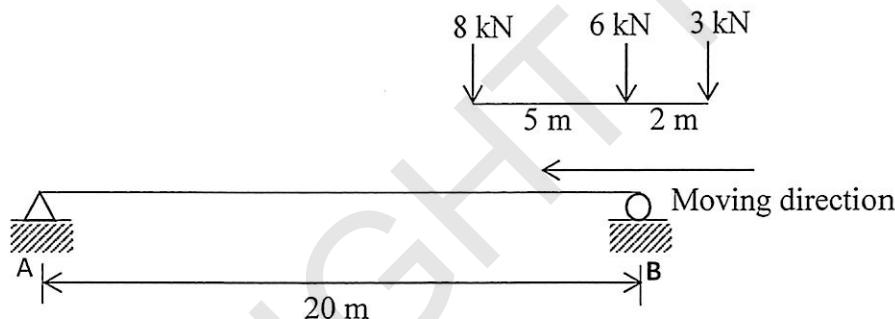

Figure A2(b) / Rajah A2(b)
- CLO3 (b) A simply supported beam in Figure A2(b) which supported at A and B is subjected to a series of moving loads of 8 kN, 6 kN and 3 kN respectively. By using the Influence Line Diagram Method, evaluate the Absolute Maximum Moment due to a series of loads moving from right to left.